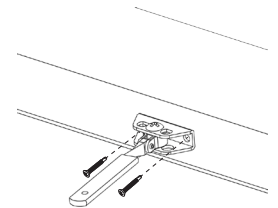

Figure 3
5. Install the second screw and secure with the proper hardware. **Tighten both screws.** (Figure 3)